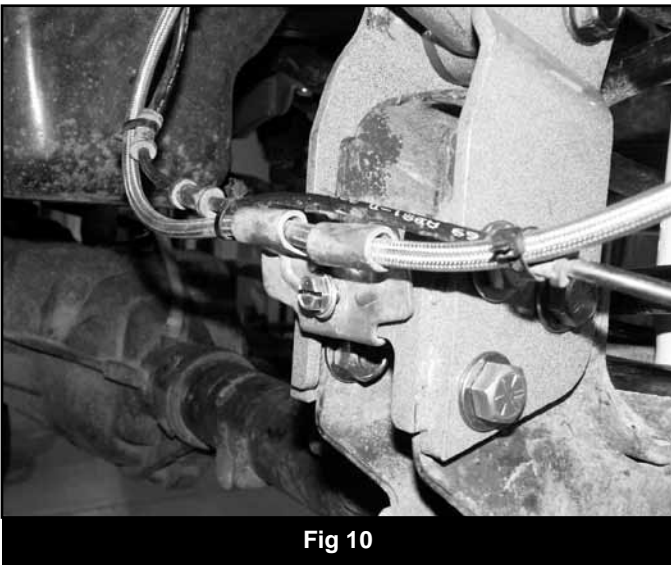

Fig 10
33. Attach the brake line to the hole in the upper control arm relocation bracket with a 5/16" x 1-1/4" self-tapping bolt. Torque to 15 ft-lbs. (Fig. 10) *Note: If installing BDS extended brakelines, they can be attached to the original brakeline axle mount.*